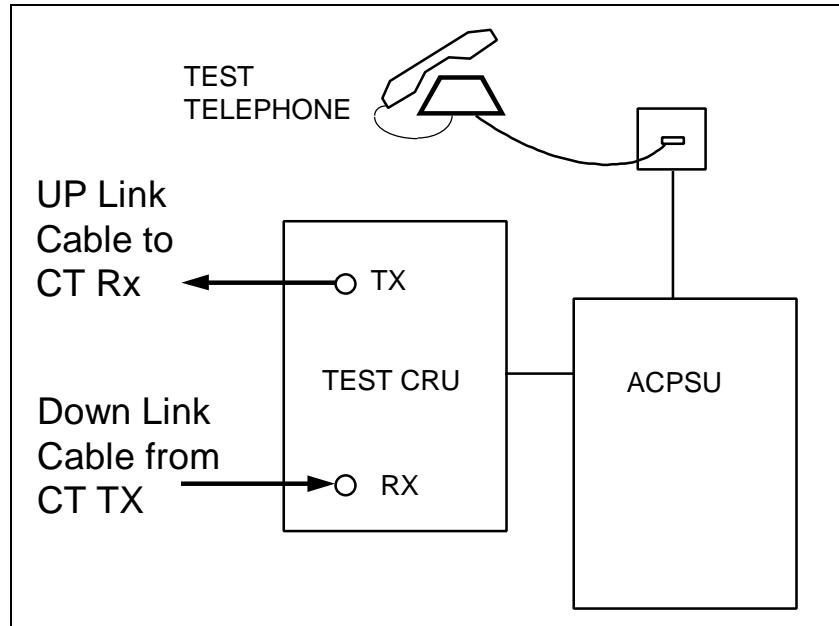

Figure 7-5. Test CRU Connections.
e) Connect the cables and termination's to the Subscriber Terminal Test Unit (Test CRU) as shown in Figure 7-5.